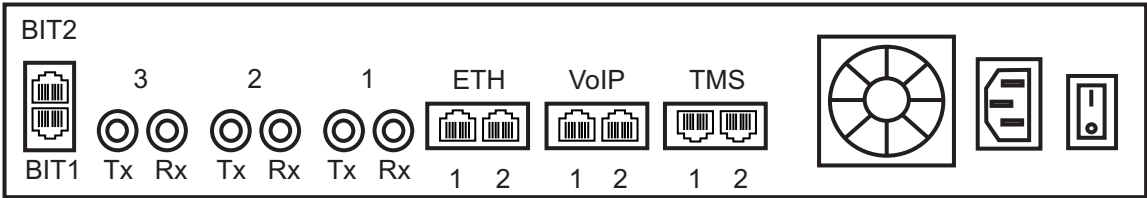

Figure 2.7 DS3 Interface to the PSTN
A TMG3200 with 3 sets of BNC connectors enables the connection to DS3 lines. See figure 2.7 on page 17
1. Start with the Dual BNC port pair #1 (right-most) as shown in figure 2.7 on page 17. Connect one pair of BNC cables between this port and the DS3 line.